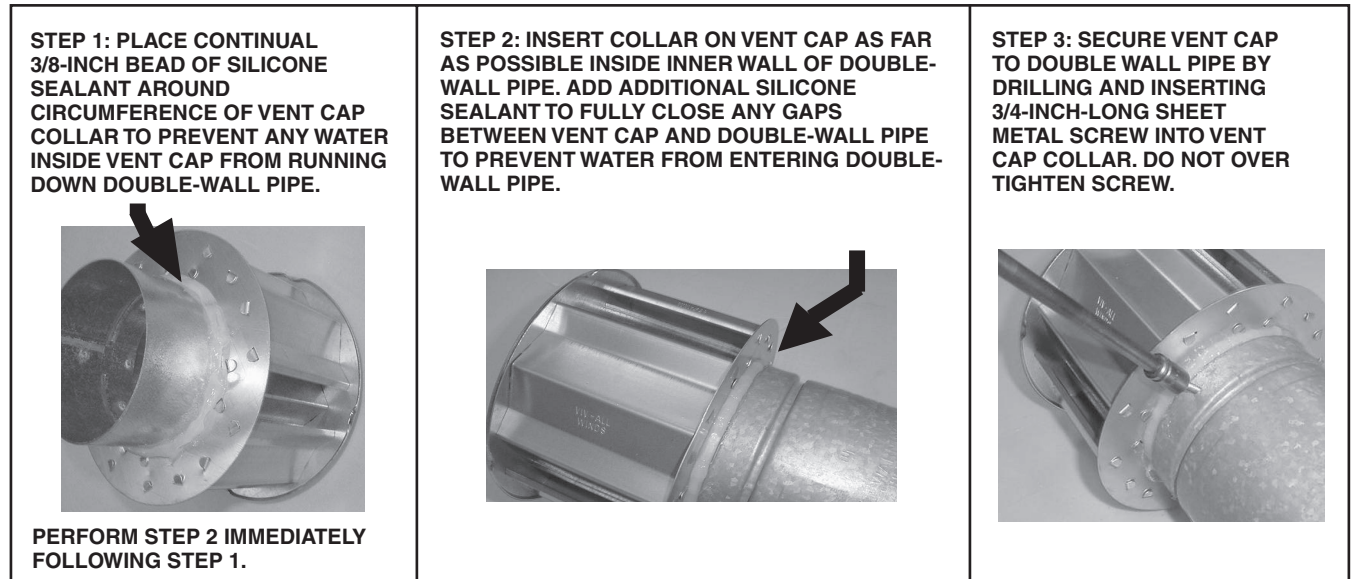

**Figure 5. Joining Double-Wall (Type B) Pipe to Single-Wall or Category III Vent Pipe**
- If installing a double-wall (Type B) terminal pipe, follow the instructions in Figure 5 to join the double-wall pipe to a single-wall or Category III vent pipe run. To attach the vent cap, follow instructions in Figure 6.
- d. **To seal the joint between the terminal section of double-wall vent pipe and a single-wall or Category III vent pipe:** follow the illustrated step-by-step instructions in Figure 5. Make this connection no more than 6 inches (152 mm) from the concentric adapter box.